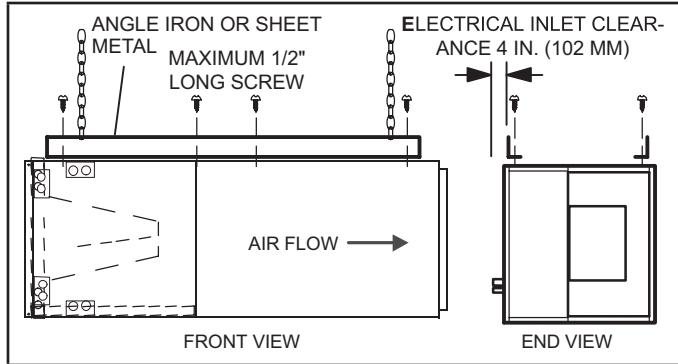

FIGURE 10. Suspending Horizontal Unit
- 5 - If the unit is suspended, the entire length of the cabinet must be supported. If you use a chain or strap, use a piece of angle iron or sheet metal attached to the unit (either above or below) to support the length of the cabinet. Use securing screws no longer than 1/2 inch to avoid damaging the coil or filter. See figure 10. Use sheet metal screws to connect the return and supply air plenums as required.
- 13 - If suspending the unit, it must be supported along the entire length of the cabinet. If using chain or strap, use a piece of angle iron or sheet metal attached to the unit (either above or below) so that the full length of the cabinet is supported. Use securing screws no longer than 1/2" to avoid damage to coil or filter, as illustrated in figure 10. Connect return and supply air plenums as required using sheet metal screws.